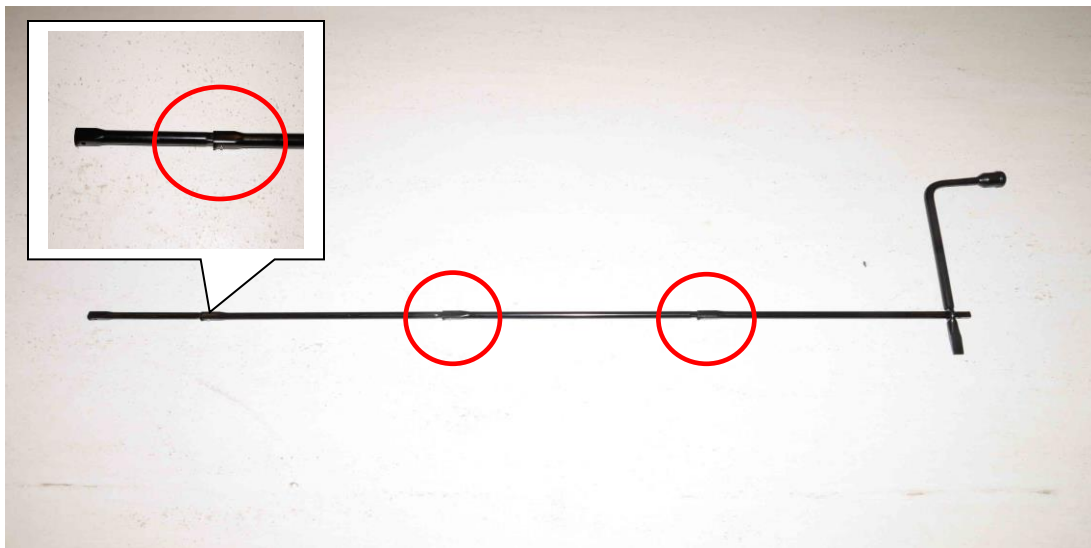

Figure 4 – Assembled Tool
4. Assemble the tools for lowering/raising the spare tire (Figure 4).